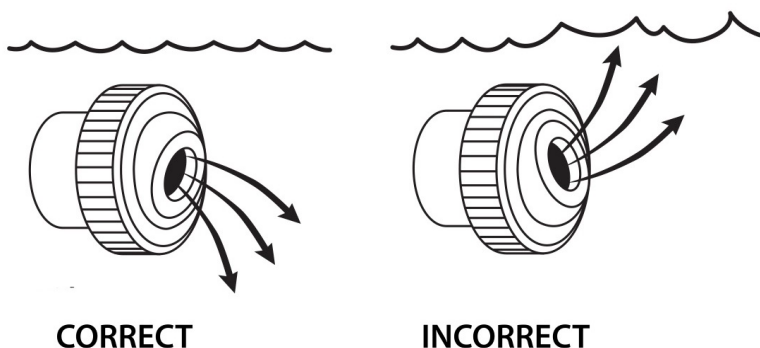

Figure 7
STEP 8: Turn the return jets built into inside pool walls down toward the bottom of the pool, using **Figure 7** as a guide. This will both help conserve the chemical consumption of your pool and allow the pool alarm to work efficiently. If water features such as waterfalls, automatic cleaners, or pump cycling cause false alarms, turn the water feature off when the pool is not in use. Contact the manufacturer with any additional questions.